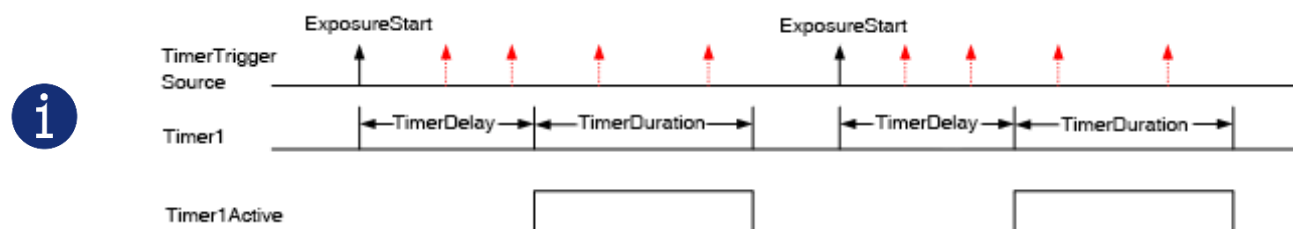

Figure 8-64 The relationship between Timer1Active and the ExposureStart signal
- 1) From the start of the timer to the full output of Timer1Active, this process will not be interrupted by the ExposureStart signal, and Timer1Active must be completely output to start timing according to the next ExposureStart signal. As shown in the Figure 8-64, the red ExposureStart signals are ignored.